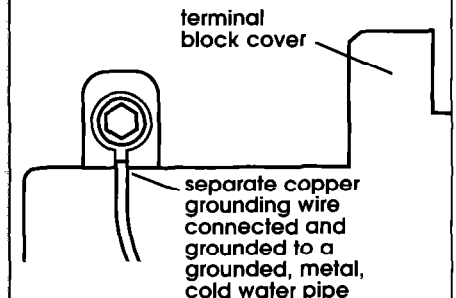

Figure 13a
- 5a. After reattaching the terminal block cover, connect separate copper grounding wire from external grounding connector to an adequate ground (see Figure 13a). If codes permit and a separate grounding wire is used, it is recommended that a qualified electrician determine that the grounding path is adequate.